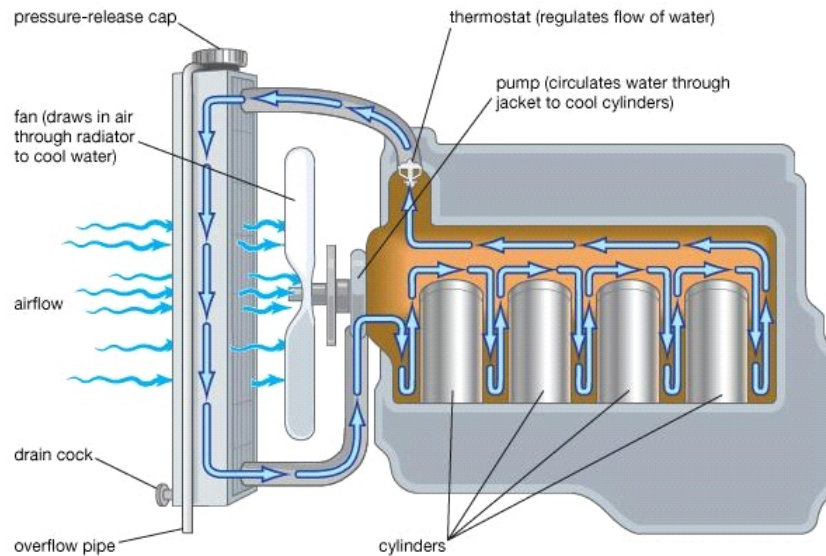

Fig. 2.12.9 Air Cooling System
2. As per the diagram below (Refer to Figure 2.12.9) explain the Air Cooling system to the participants.